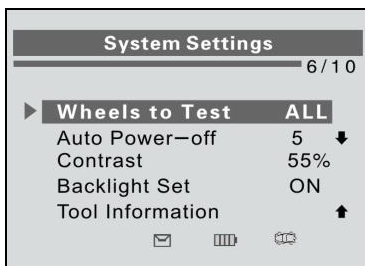

Figure 2.12
- 1) From **System Settings** screen, use the **UP/DOWN SCROLL** button to select **Wheels to Test**, and press the **Y** button. (Figure 2.12)